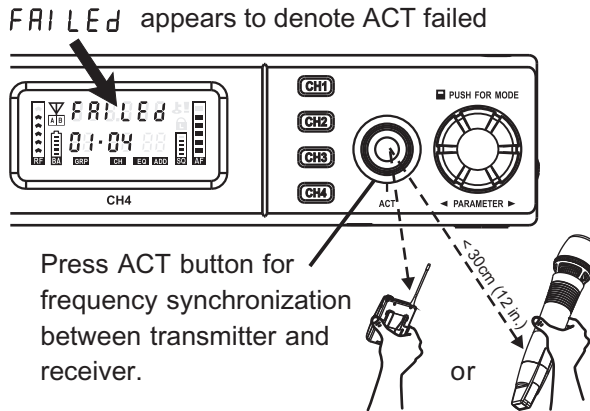

Fig. 23
- (1) Press rotary knob to select SQ meter. SQ cursor blinks to denote it is ready to accept parameter changes.
- (2) Turn the knob right to increase indicator grids. Turn left to decrease indicator grids.
- (3) After changing the parameter, press the knob again, SQ cursor stops blinking and saves the new value automatically.
- (4) The lower the SQ level, the higher sensitivity level is when searching automatically for a non-interference channel. When SQ is set as the highest level, the frequency can be selected forcibly regardless the level of external interferences.
- (5) The SQ setting, regardless high or low, will not affect the receiver's sensitivity during a performance.
(I) ACT Sync Set-up, Fig. 23: